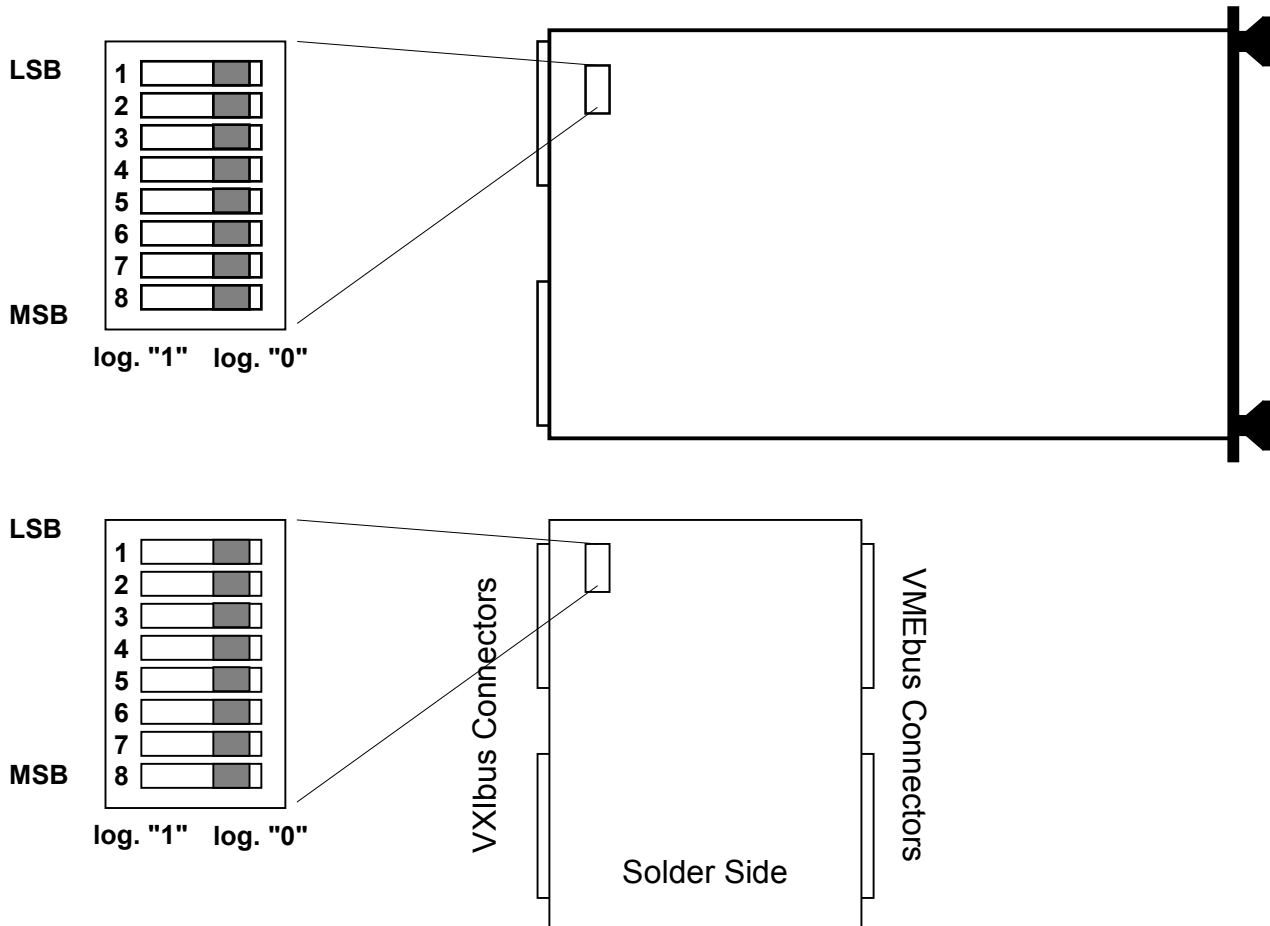

Figure 9 - Logical Address Switch Location
Figure 9 shows the location of the logical address switch on the ProDAQ 3040. Set each switch to 'Off' for a logical one (1) and to 'On' for a logical zero (0). The picture shows the address switch set to logical address zero (0).